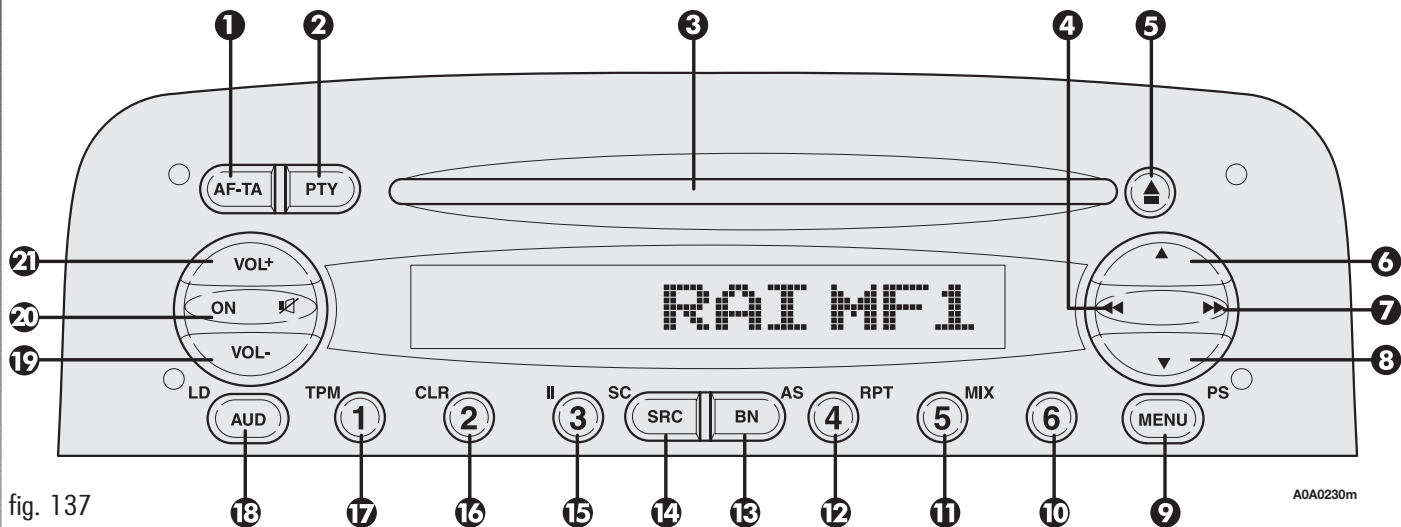

fig. 137
## CONTROLS ON FRONT PANEL (fig. 137)
**FUNCTIONS AND ADJUSTMENTS (fig. 137)****Switching on**